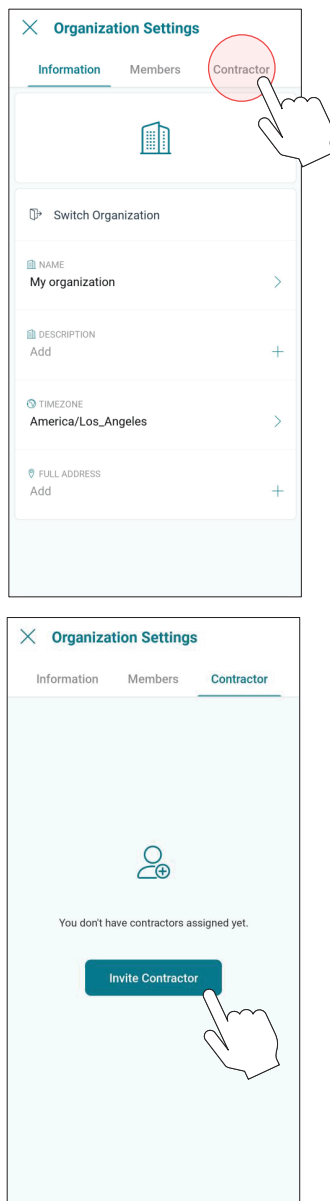

Figure 115. Click on “Invite Contractor”
5. Go to **[Contractor]** tab, and press [Invite Contractor]. See Figure 115.